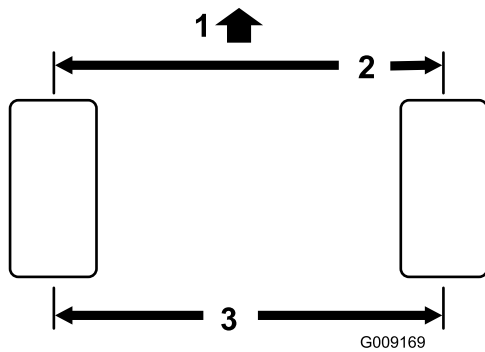

Figure 76
2. Measure the center-to-center distance (at axle height) at the front and rear of the steering tires (Figure 76).